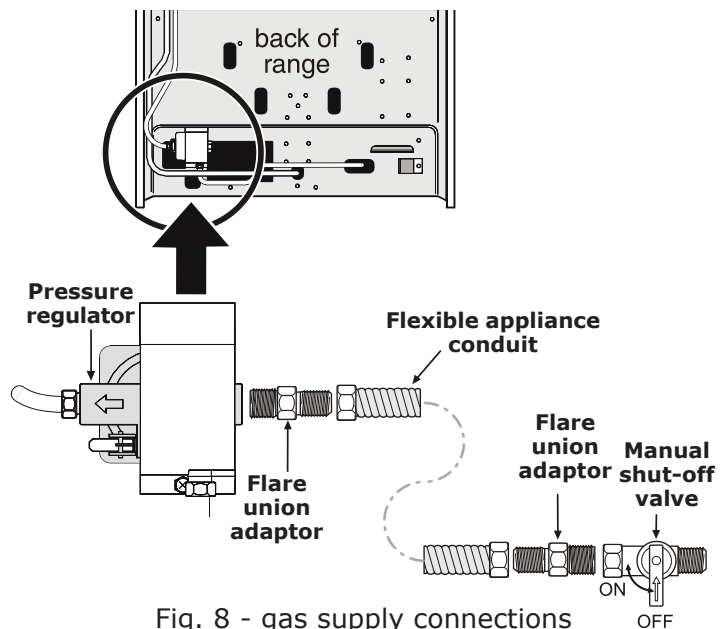

Fig. 8 - gas supply connections
- Install an external manual gas shut-off valve to gas supply line in an accessible location outside of range. Be sure you know where and how to shut off the gas supply to the range (See Fig. 8).
- Install 1/2" flare union adapter to gas pressure regulator using **no more than 15ft./lbs.** of torque (Refer to Fig. 8).
- d. Install flare union adaptor to external manual shut-off valve (See Fig. 8).
- e. Attach flexible appliance conduit to flare union adaptor on shut-off valve (See Fig. 8).